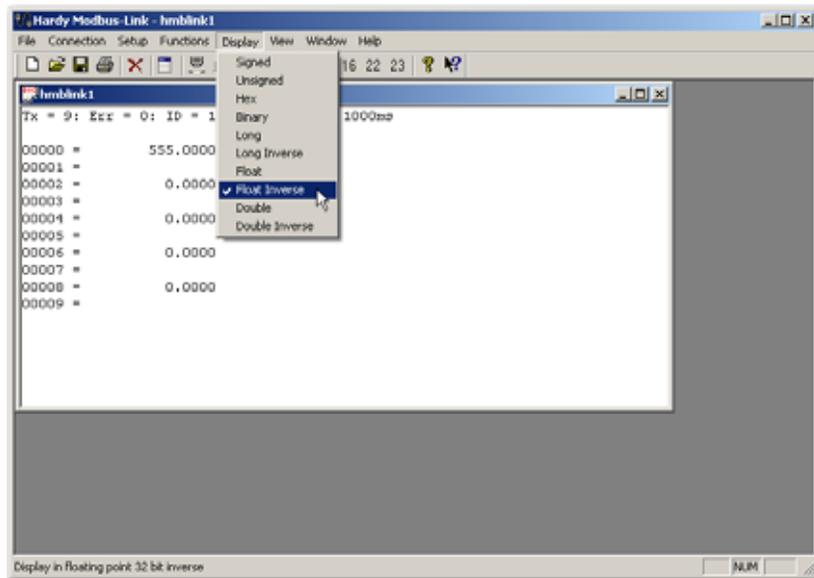

FIG. 242 HARDY MODBUS-LINK DISPLAY/SELECTING DISPLAY/FLOAT INVERSE
- Go to the Hardy Modbus-Link Display. (See Fig. 242) Minimize the Web Page, do not close the browser.